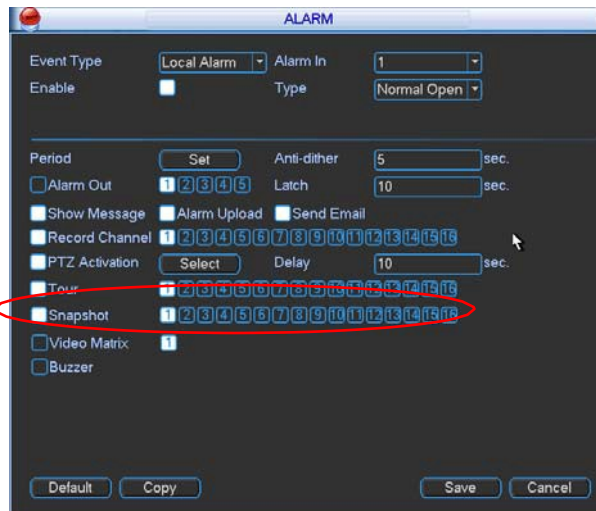

Figure 4-23
- z In Encode interface, click snapshot button to input snapshot mode, size, quality and frequency. See the interface on the left of Figure 4-23.
- z In Detect interface please enable snapshot function for specified channels (interface in the middle of Figure 4-23). Or in alarm interface (interface on the right of Figure 4-23) please enable snapshot function for specified channels.
Please refer to the following figure for detailed information. See Figure 4-23.